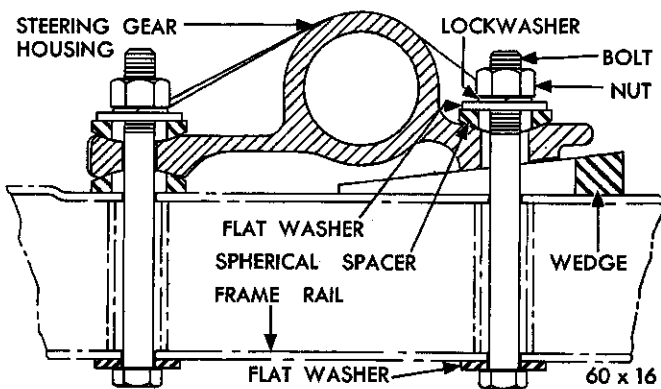

Fig. 31—Steering Gear Mounting
(11) Install the steering wheel and steering wheel nut. Tighten nut to 40 foot-pounds torque. Test operation of cancelling lever.
(12) Install the horn blowing switch, horn ring, insulators and attaching screws. Connect the horn wire.
(13) Position floor panel opening toe cover.
(14) Tighten the front upper and the lower gear housing to the frame attaching bolts to 50 foot-pounds torque.
(15) Install the serrated wedge over the rear mounting bolt (Fig. 31) between the housing and the frame parallel to the axis of the steering gear worm shaft so that the tapered surfaces match; tap lightly but firmly into place and tighten the rear mounting bolt to 50 foot-pounds torque.
(16) With the steering gear centered in its travel and the steering wheel and front wheels in the straight ahead position, install the steering gear arm, washer and nut. Tighten to 120 foot-pounds torque.
(17) Install the steering center link, nut. Tighten to 30 foot-pounds torque and install cotter pin.
(18) Install the hydraulic brake master cylinder on the brake booster unit and install the lockwashers and attaching nuts. Tighten nuts securely.
(19) Connect the pressure and the return hoses.
(20) Refill the reservoir. Expel all the air from the system by turning the steering wheel several times to the right and left.
(21) Connect the battery cable at the battery negative post.
(1) Enter the steering gear assembly through the engine compartment and install the spherical, flat and lockwashers and nuts, but do not tighten.
(2) Install the Steering Gear Housing Aligning Tool C-3949 in place of the vehicle steering column and jacket tube and align the steering gear as follows:
c. Tighten the two forward steering gear mounting bolts to 50 foot-pounds torque (Fig. 31).
(3) Install the steering column and jacket assembly through the floor panel from the driver's side and start the coupling on the steering gear wormshaft, making certain the master serration on the coupling indexes with the missing serration on the worm shaft.